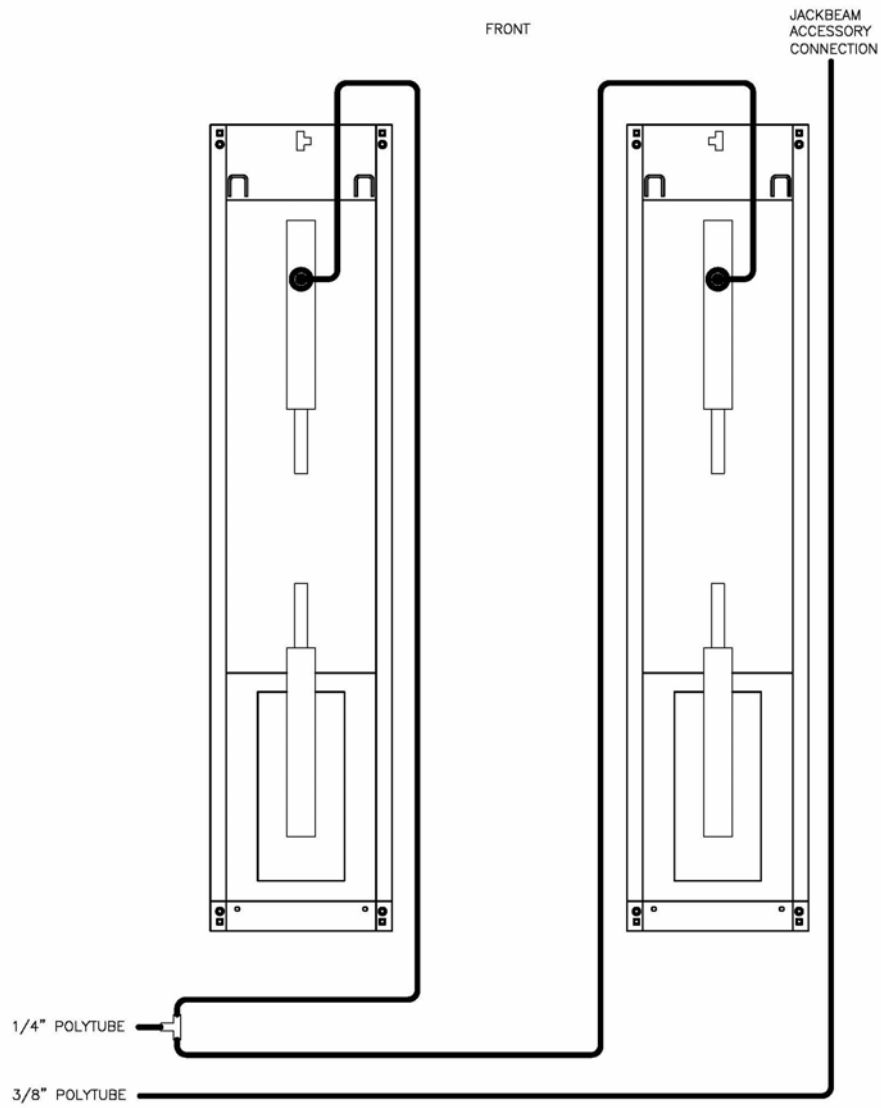

Figure 8 – Air Safety & Auxiliary Air Connections
1. The ¼" polytube in the baseframes should be joined in between the runways using a ¼" "T" from the hardware kit as shown in **Figure 8**. The ¼" polytube in the control console is already connected to the manual pushbutton release valve. The polytube should be uncoiled, cut to size and connected to the "T".